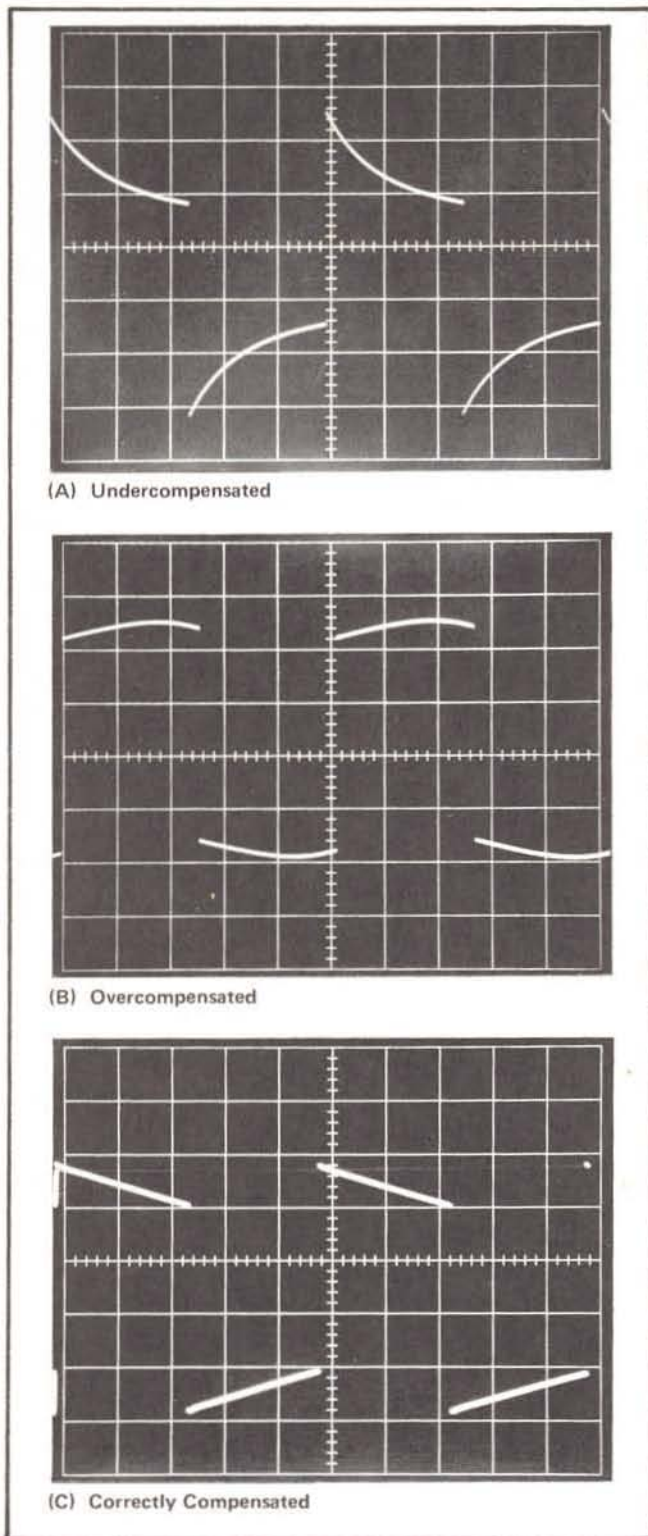

Fig. 5-6. LF COMP using the P6022 probe connected to the 40 mA current loop. (a) under compensated (b) overcompensated (c) correctly adjusted.
- f. **ADJUST—LF COMP** for best flat top (see Fig. 5-6). This adjustment should be made each time when changing from one probe to another, even with probes of the same type.